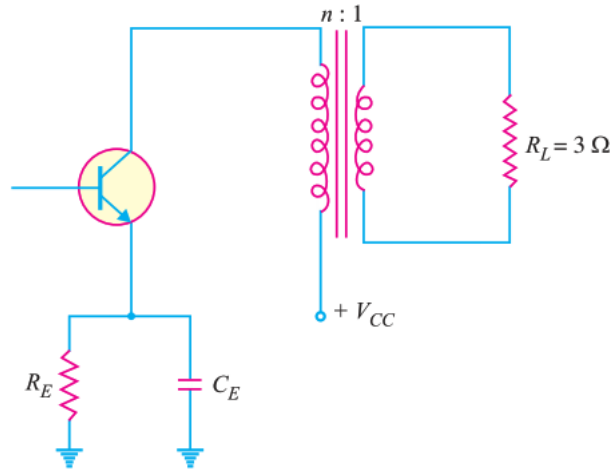

Fig. 3.13
2. The output resistance of the transistor shown in Fig. 3.13 is  $3 \text{ k}\Omega$ . The primary of the transformer has a d.c. resistance of  $300 \Omega$  and the load connected across secondary is  $3 \Omega$ . Calculate the turn ratio of the transformer for transferring maximum power to the load.